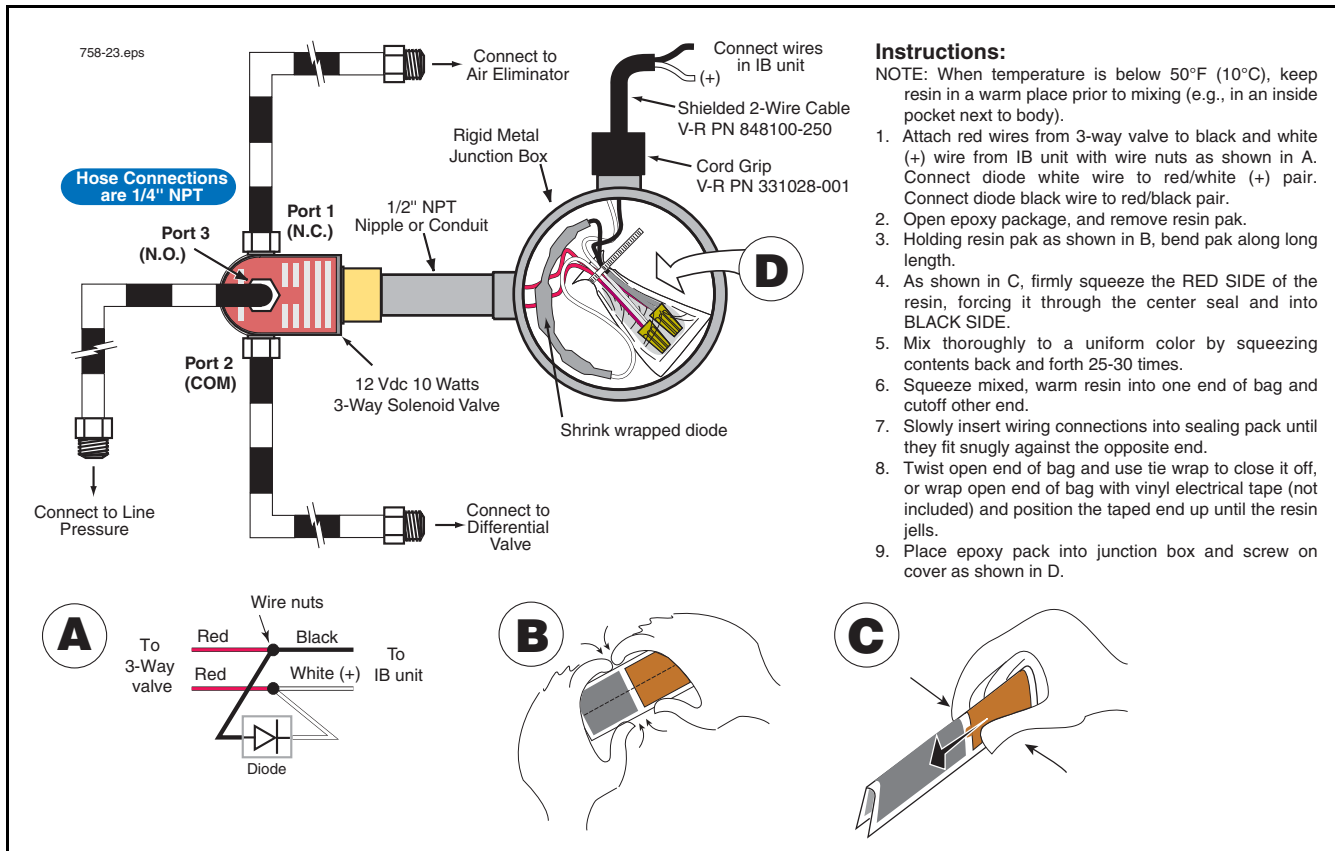

Figure 5. Connecting 3-Way Valve To Neptune Meter - Truck LP Gas Installations
1. On the valve, install a rigid metal conduit nipple in the threaded opening, provided for the solenoid wiring. Run the two red wires from the 3-way valve, through the nipple and into a metal junction box. Mechanically attach the valve/nipple combination to junction box as shown in Figure 5. *Even though the 3-way valve will operate in any position, it will last longer and perform best if mounted vertically upright (port 3 up).* Secure the junction box to the vehicle's frame.
- Using the wire nuts, connect the stripped wires from the IB box to the 3-way valve wires (see Figure 5). There is no polarity to the 3-way valve's wiring. Seal the wire nuts with epoxy sealant using one bag for both wire nut connections and place bag in junction box (see Figure 5).
Connect a hose from line pressure to port 3 (normally open port) of the 3-way valve (see Figure 5). On some systems, line pressure is available at an opening in the vapor eliminator housing. Connect another hose from the 3-way valve's port 1 (normally closed port) to the air eliminator. Connect a third hose from the 3-way valve's port 2 (common port) to the differential valve.